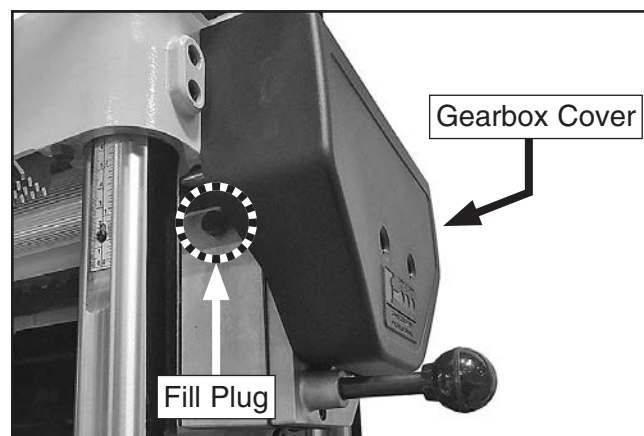

Figure 14. Location of gearbox fill plug.
Note: For easier access to the fill plug, remove the gearbox cover (see **Figure 14**).
1. Remove gearbox fill plug (see **Figure 14**).